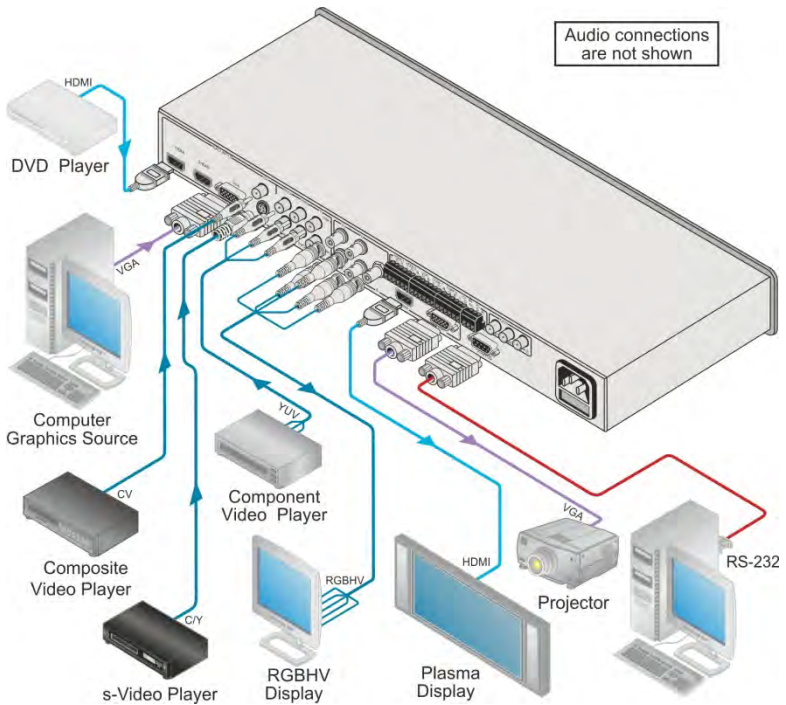

Figure 3: Connecting the VP-436N Presentation Switcher / Scaler
To connect your **VP-436N**, as illustrated in the example in Figure 3, do the following:
6. Connect the audio input signals to the AUDIO IN terminal block connectors, as required (not shown in Figure 3).
10. Connect the audio output signals to the OUT stereo analog audio acceptor and/or the digital audio acceptor, as required (not shown in Figure 3).
11. Connect the power cord (not shown in Figure 3).